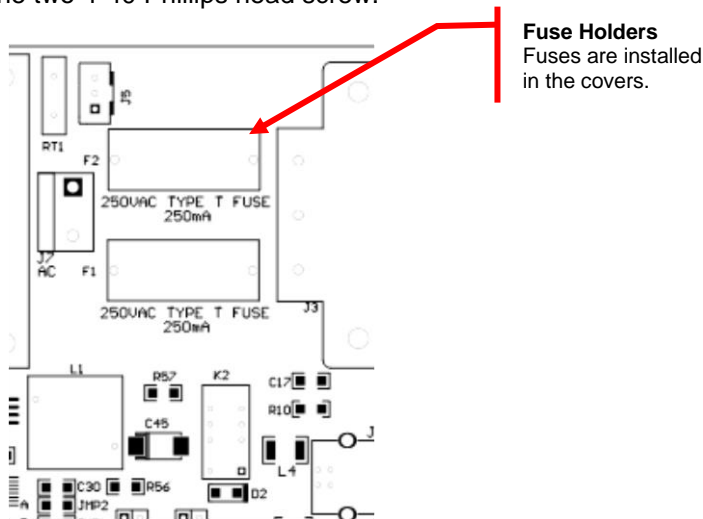

Figure 9 Location of Fuse Holders
3. Refer to Figure 9 below. Locate the two Fuse Holders near the AC Input Module towards the back of the unit. Remove the cover to each fuse holder. The fuse is installed in the cover. Remove the existing fuse and install the appropriate replacement fuse.